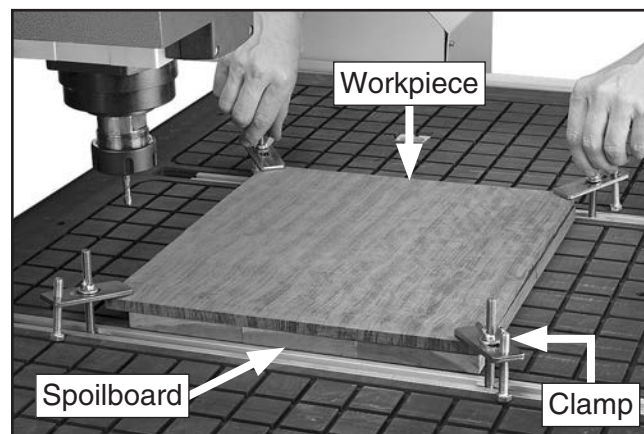

Figure 52. Spoilboard clamped to router bed.
1. Clamp surfaced spoilboard to machine bed using included hold-down clamps (see **Figure 52**). If vacuum table is used, secure spoilboard as described in **Using Vacuum Table** on **Page 37**.